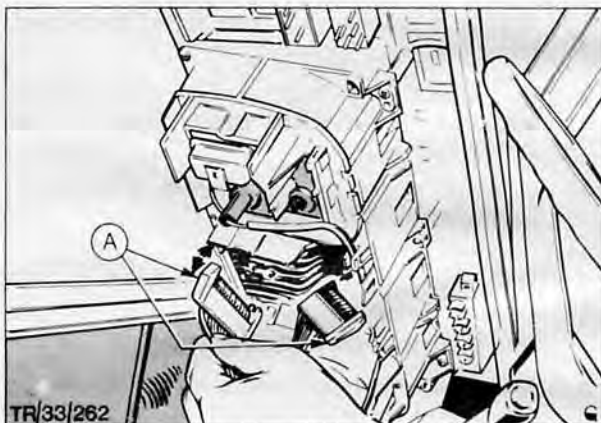

Fig. 14. Disconnecting multi-plugs
7. Disconnect two multi-plugs where they connect to instrument cluster, Fig. 14.
3. Remove two securing screws, Fig. 14, and lift instrument housing shroud from its location, on facia panel.